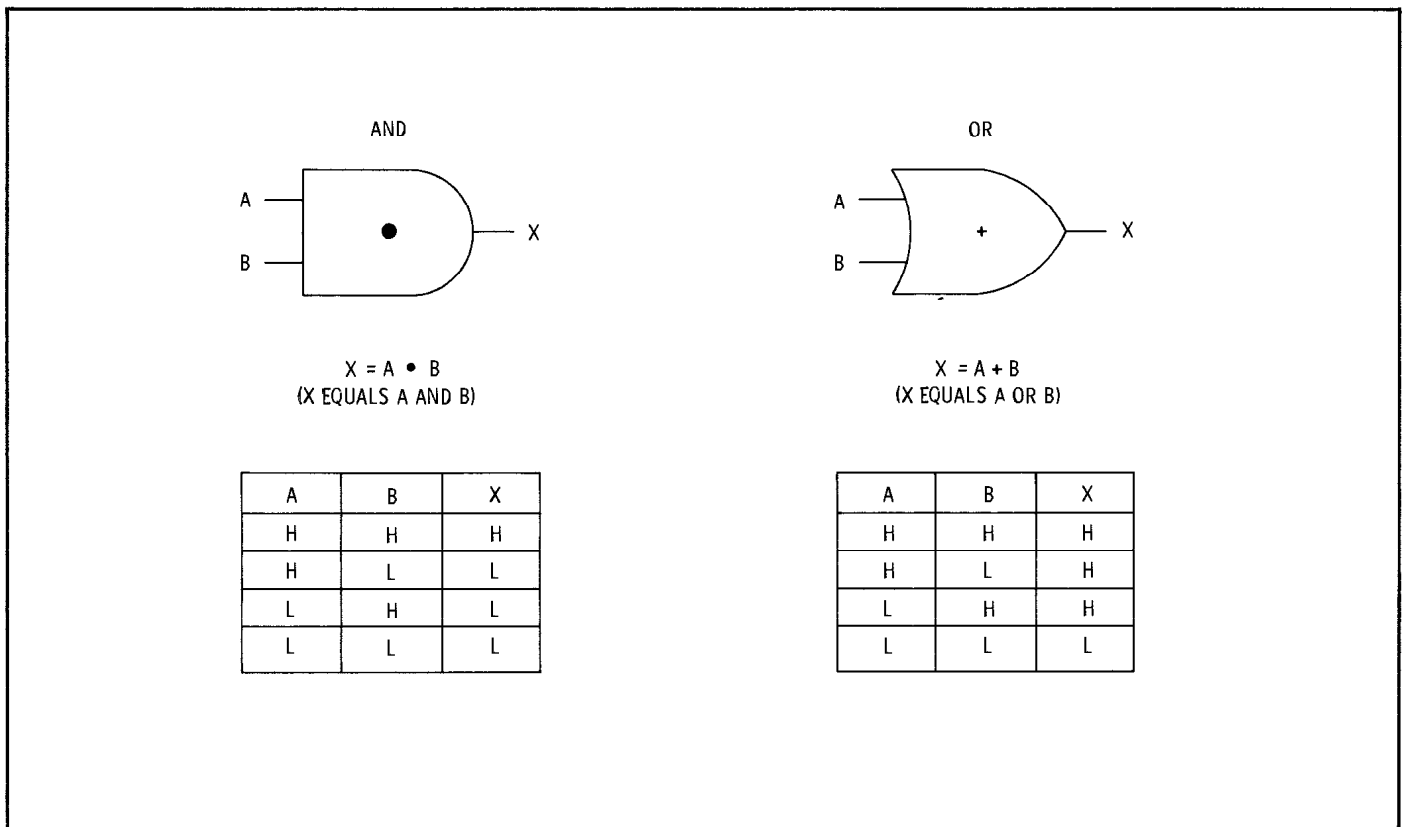

Figure 8-2. Basic AND and OR Gates
8-28. Two of the basic "building blocks" of logic circuits are the AND and OR gates. The symbols and truth tables for basic AND and OR gates are shown in Figure 8-2.
**8-29. BASIC AND GATE** (Positive logic). The basic AND gate is a circuit which produces an output "1" when, and only when, a "1" is applied to all inputs. As shown in Figure 8-2, terminal X will be high only when terminals A and B are both high. The dot (•) shown in the AND gate is the logic term for AND. The term for a simple two input AND gate is  $X = A \bullet B$  (X equals A and B). AND gates may be designed to have as many inputs as required to fill a specific requirement.
**8-30. BASIC OR GATE** (Positive logic). The basic OR gate is a circuit which produces a "1" output when any one, or all of the inputs are in a "1" state. As shown in Figure 8-2, terminal X will be high when either terminal A or terminal B, or both are high. The + shown in the OR gate symbol is the logic term for OR. The term for a simple two input OR gate is  $X = A + B$  (X equals A or B). OR gates may be designed to have as many inputs as required for specific needs.